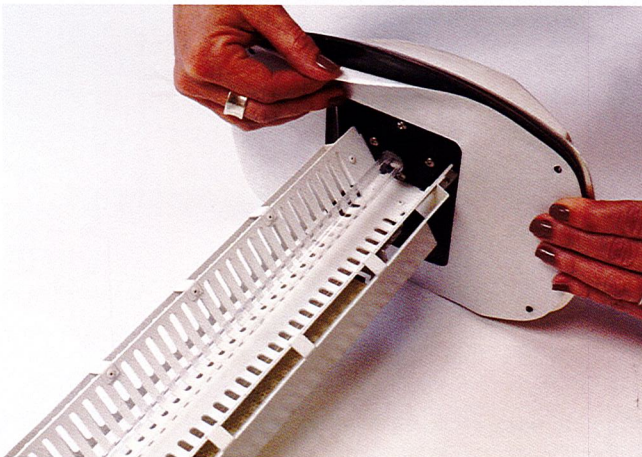

Figure 3
- Be sure the mating area of the duct surface is clean and dry. Secure the mounting plate to the duct by first peeling the paper backing off the self/adhesive sealing ring affixed to the back side of the mounting plate. Refer to **Figure 3**.